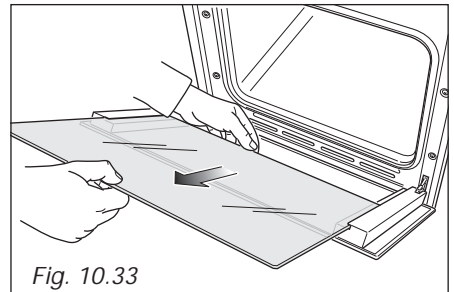

Fig. 10.33
- Gently pull out the inner pane of glass (fig. 10.33).